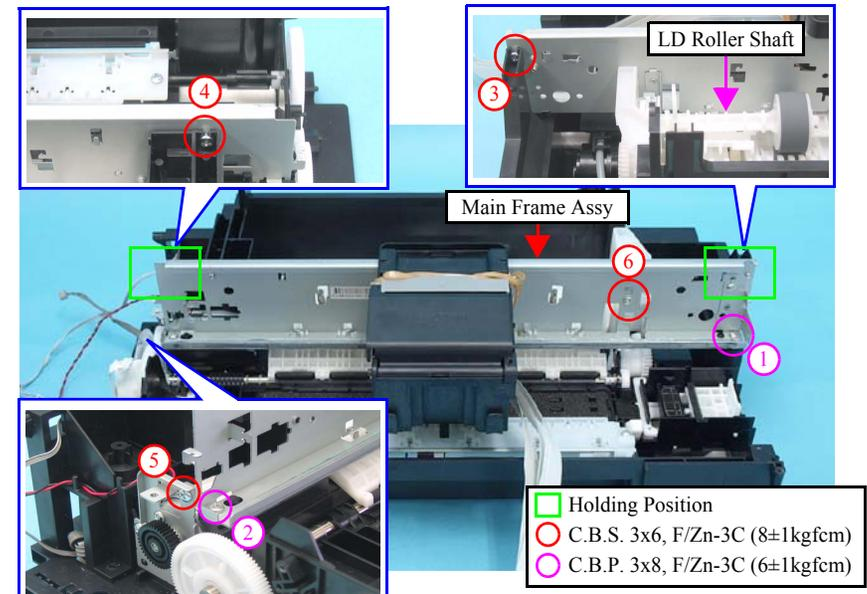

Figure 4-70. Removing the Main Frame Assy
- When installing the Main Frame, tighten the screws in the order given in Figure 4-70.